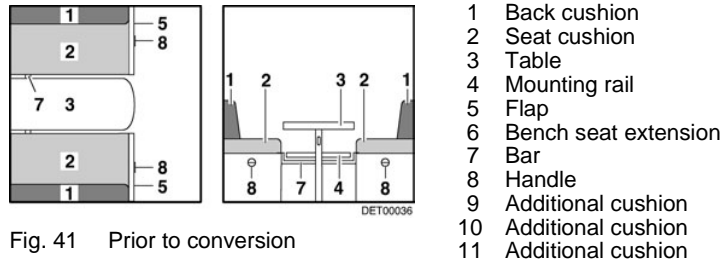

Fig. 41 Prior to conversion
- Extend the table (Fig. 41,3) and convert it into a bed foundation (see section 7.9).
- Insert the bar (Fig. 41,7) or pull it inwards. The bar is correctly positioned if it supports the table-top about 15 - 20 cm behind the table leg.
- Attach the table to the lower mounting rail (Fig. 41,4).
- Pull on the handle (Fig. 41,8) and open the flap (Fig. 41,5).